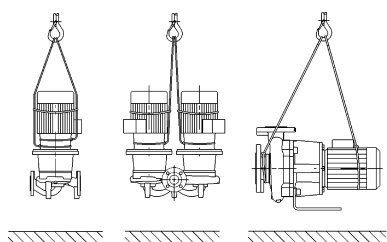

Fig. 7: Transporting the pump
- The transport eyes on the motor are only for guiding while bearing the load (Fig. 7).